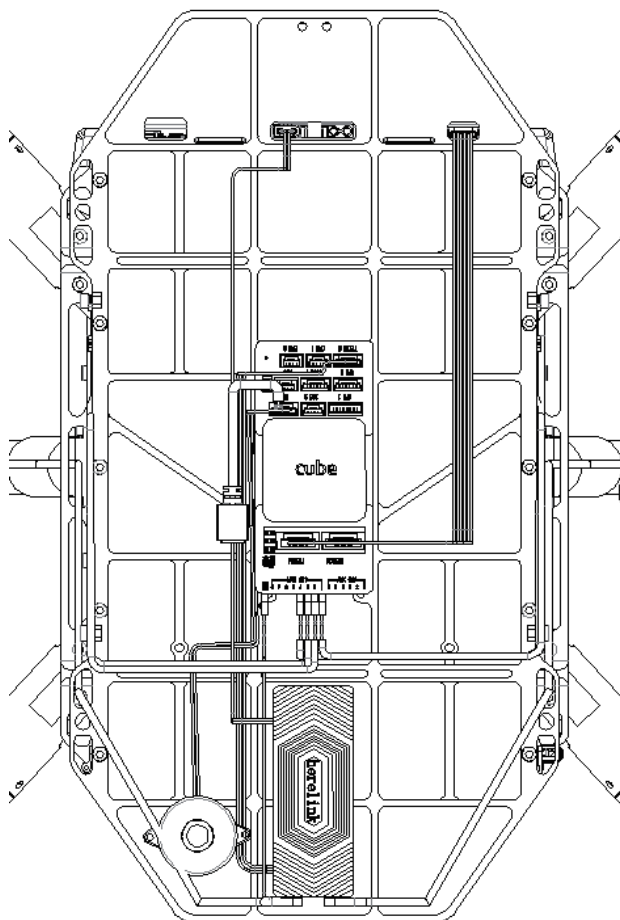
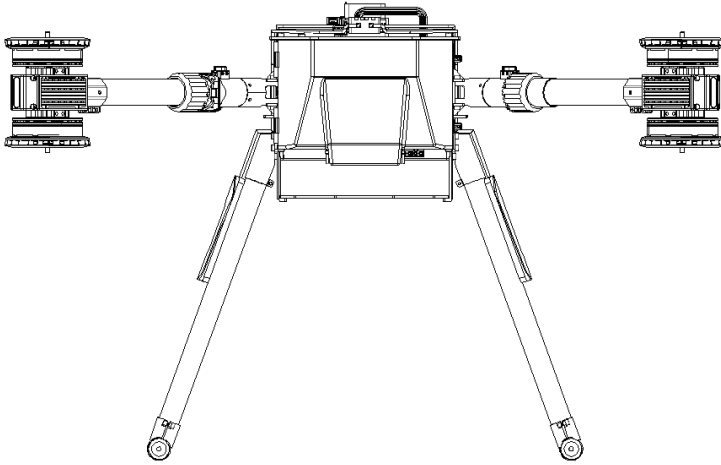

Figure 8 (Flight Control Installation)
Figure 9 (Video Transmission And Antenna Fixing)
2. Install the flight control components according to Figure8
- Use the 3M tape to fix the video transmission to the upper the body (figure 8), and the same to fix the antenna to the landing gear, as shown in (figure 9)